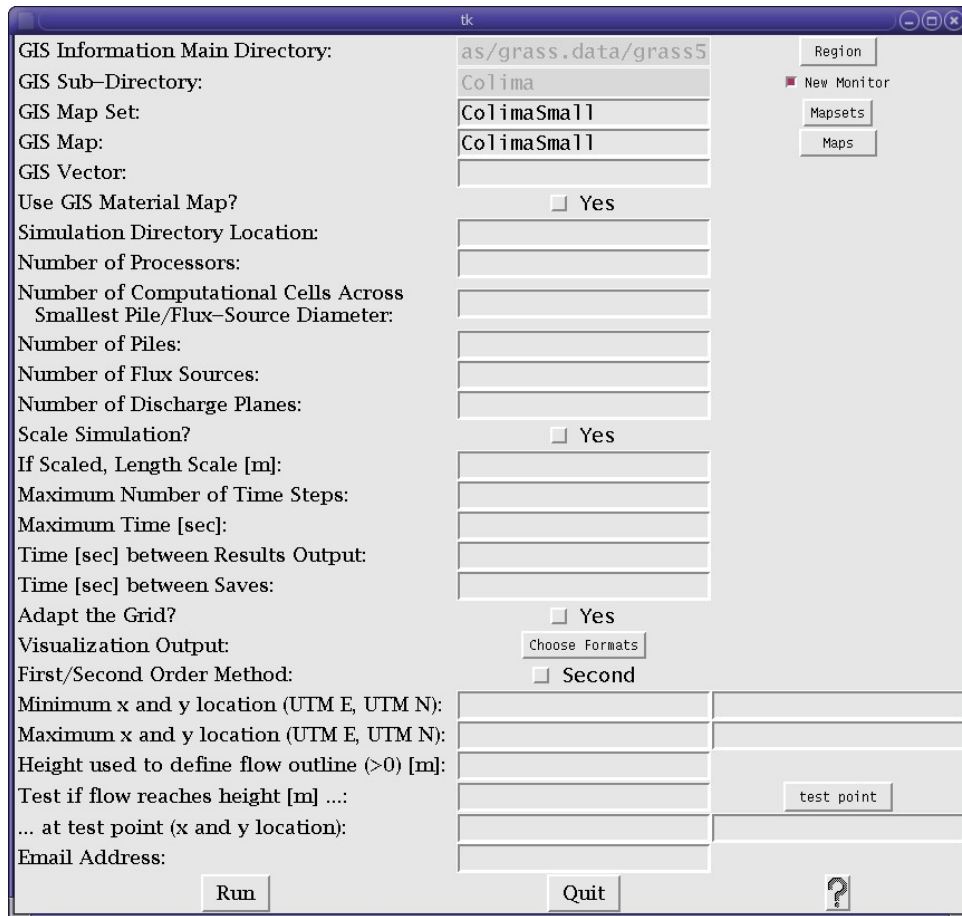

Figure 3.12: Python Interface with GRASS functions activated
2. After the python GUI pops up (figure 3.12), input simulation parameters as usual.